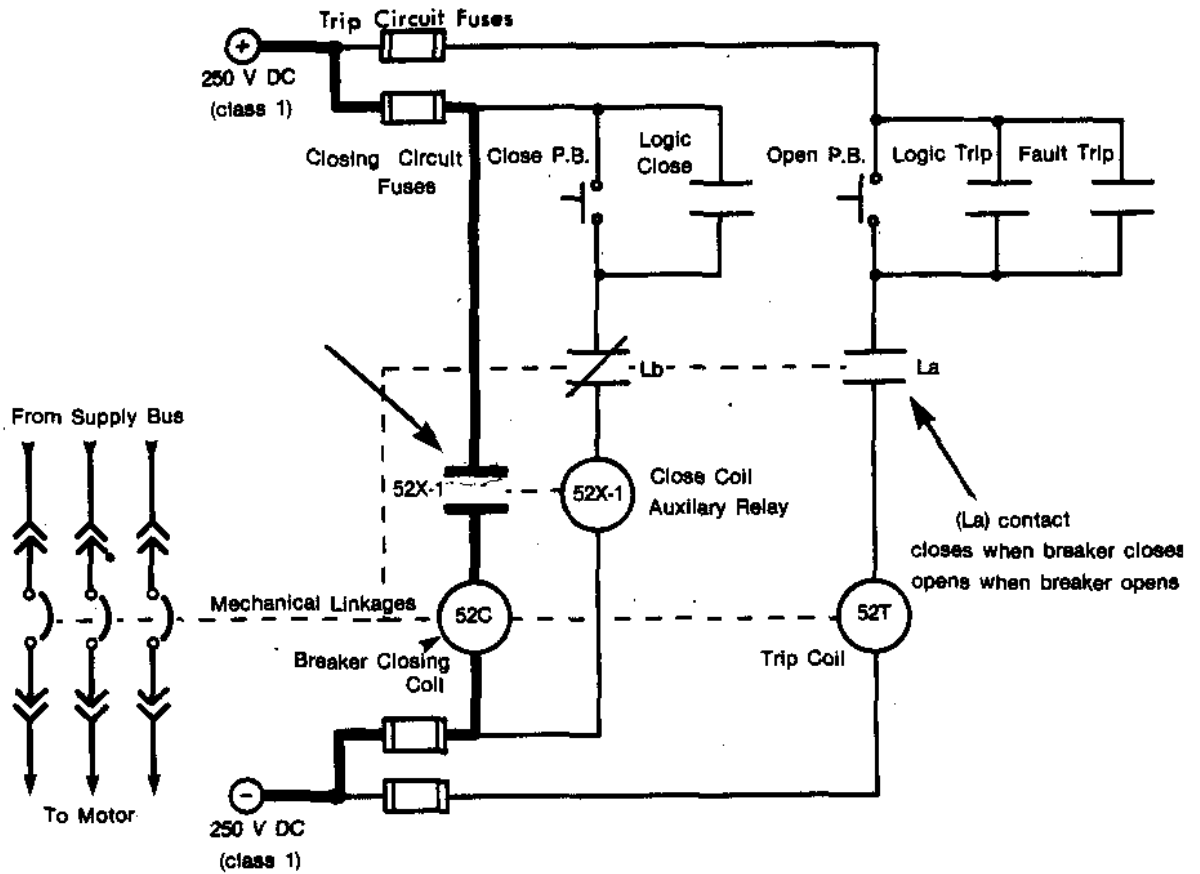

Figure 3: Circuit Breaker Basic Control Circuit.
Figure 3 shows a simplified circuit for a circuit breaker. The circuit has two main paths, one for closing and one for tripping.
Examining Figure 3 shows that when the breaker is open, the Lb contact in series with the auxiliary relay 52X is closed. When a close signal is given from the close pushbuttons or from the control logic, current will flow through the coil of 52X, closing 52X-1, energizing the main closing coil 52C. The breaker will now close and latch closed. As soon as the breaker has closed and latched, the Lb contact opens, de-energizing 52X and 52C. This will prevent 52C burning out (it is short time rated) and minimize battery drain.
- 4.2.3 Other Breaker Control Features. Most breakers have additional control features which, for the sake of simplicity, have been left out of Figure 3. These features include.
- (a) Anti-Pumping - sometimes called anti-hunting. If a breaker receives simultaneous closing and opening signals - due to operator error or equipment malfunction - the breaker controlled by a circuit similar to that shown in Figure 3 will rapidly open/close/open/close/open. In a short time (seconds) the breaker will be damaged - and so may the load due to repeated power surges. Therefore an additional relay and other circuitry is provided to ensure that a breaker can only make one attempt at closing per operation of the closing circuit, ie the breaker will close/trip and then lock-out preventing further closures. The closing signal must be removed before a further close can be done.